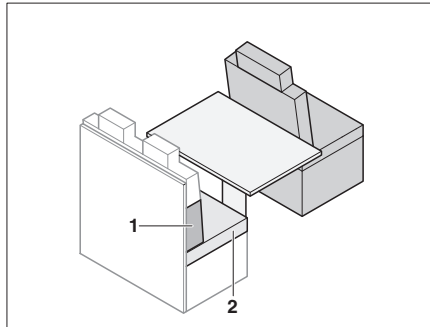

Fig. 183 Prior to conversion
- Remove the seat cushion (Fig. 183,2).